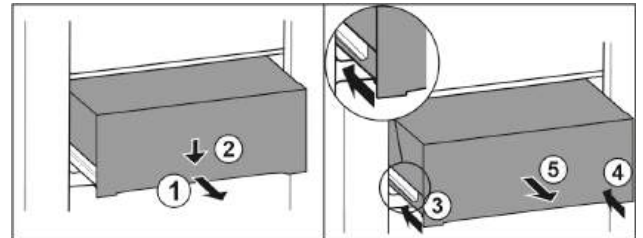

Fig. 119
- ▶ Pull out drawer half-way. Fig. 119 (1)
- ▶ Push the drawer down at the front. Fig. 119 (2)
- ▶ Push the left rail in by about 2 cm. Fig. 119 (3)
- ▶ Push the right rail in by about 2 cm. Fig. 119 (4)
- ▶ Remove drawer to the front. Fig. 119 (5)